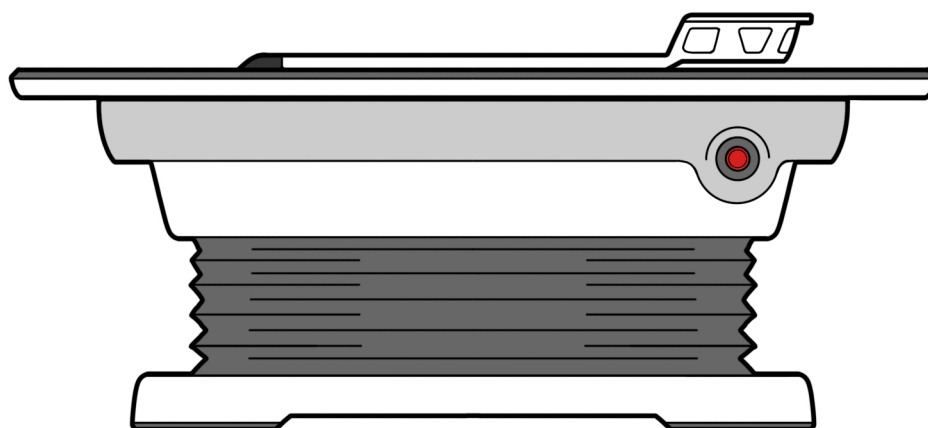

Figure 1
3. Place Encompass™ MRI SRS Immobilization Device (RT-4600-01-MRI) on the MR Table (Fig. 1).